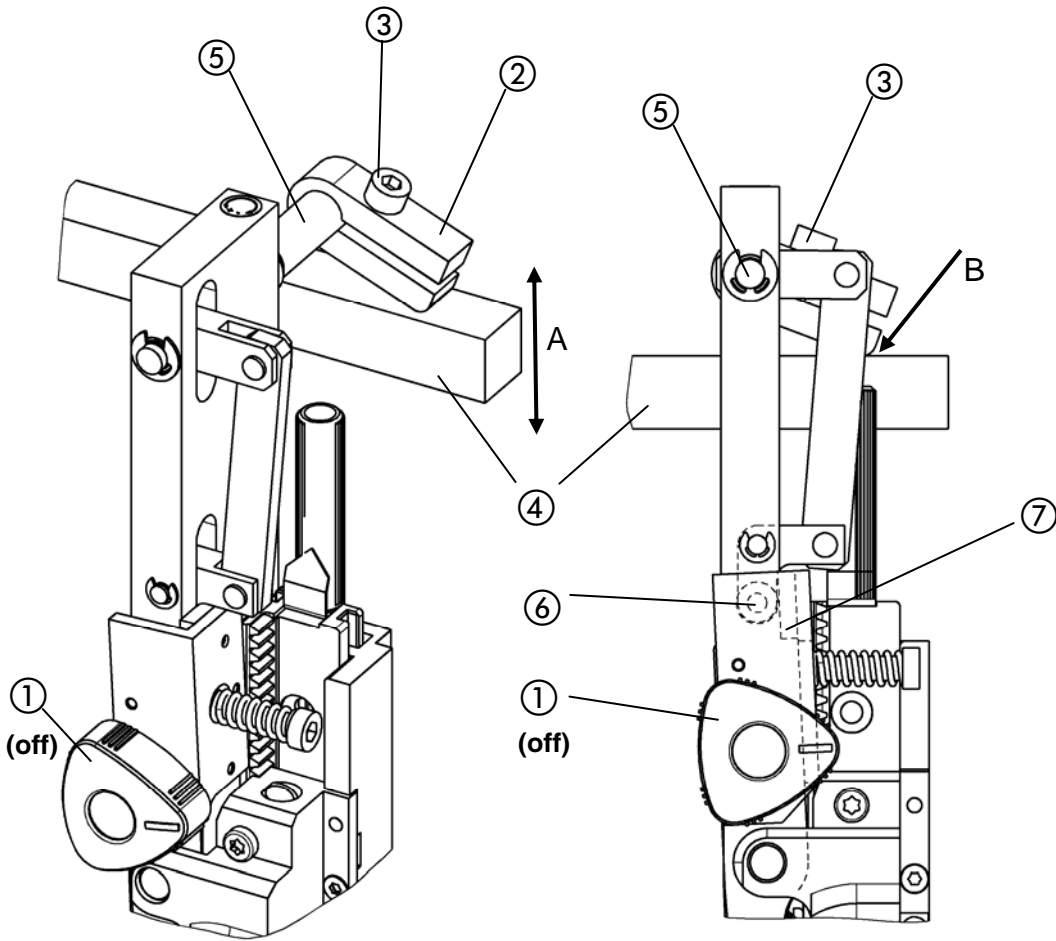

Fig. 22
- Fig. 22 -
- Deactivate the wire transport at the triangular handle ① (marking line points to the right, see Fig. 22).
- Loosen clamping of the switching segment ② at the screw ③.
- Move lifting bar ④ (switch is actuated in case of a waste sheet) upwards (**arrow A**).
- Turn axle ⑤ of the switching segment to the left (anticlockwise) until the bottom rocker ⑥ with the bearing touches the transport lever ⑦.
- Have the switching segment ② lie on the lifting bar ④ (**arrow B**) and tighten screw ③.
- Press lifting bar ④ downwards (**arrow A**).
- Activate wire transport at the triangular handle ① (marking line points upwards or downwards).